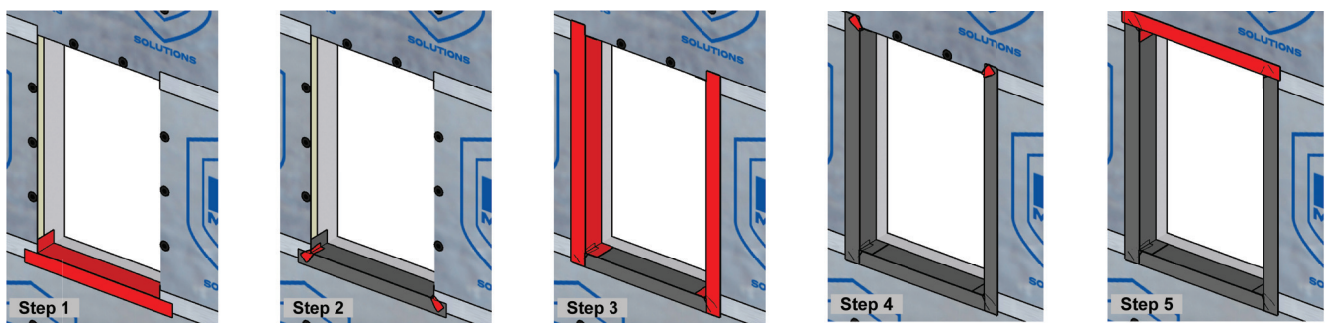
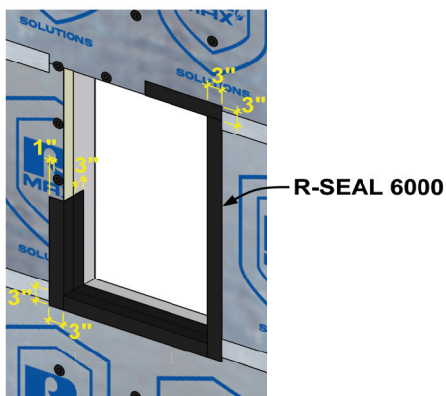
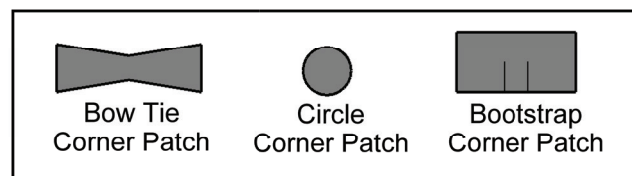

Figure 9
Figure 10
Figure 11
J. **Rough Openings:** Apply sill flashing first, then bottom corner patches. Next, apply flashing at the jambs, then upper corner patches. Finally, apply head flashing. Head flashing must extend at least 1" beyond jamb flashing on both sides. **Reference Figure 9.** For each plane to be flashed, extend flashing a minimum of 3" onto the surface of the last substrate and a minimum of 1" beyond any washer. **Reference Figure 10.** Corner patches are critical to ensure continuity in the corners at flashing transitions. They are typically pre-cut pieces of R-SEAL 6000 in the shape of a circle, bowtie or bootstrap. **Reference Figures 11.** Alternatively, use pre-formed end dams.